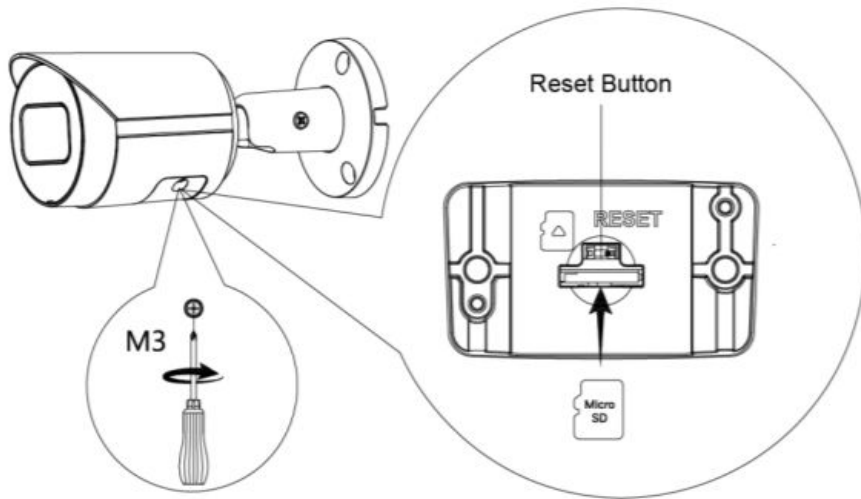

Figure 2-10
Step 2 Slightly press the RESET button for 15-30 seconds to complete the reset function. See Figure 2-10. The camera will reboot when the reset process is complete.
Step 3 (If installing SD Card) Adjust the Micro SD Card to a proper direction shown in Figure 2-10.